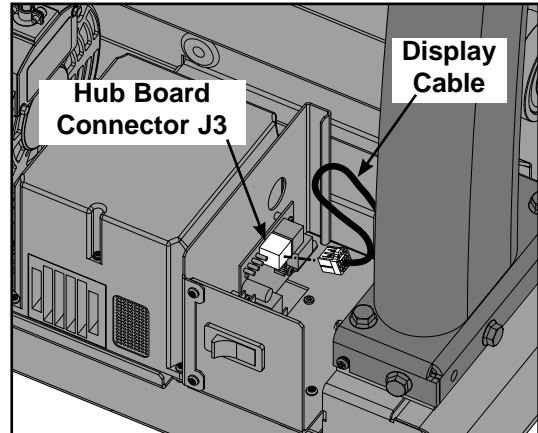

Figure 34
- Disconnect the display cable from the hub board connector J3 in the base. See Figure 34.
- Plug the display cable into the hub board connector J3 in the base. See Figure 34.